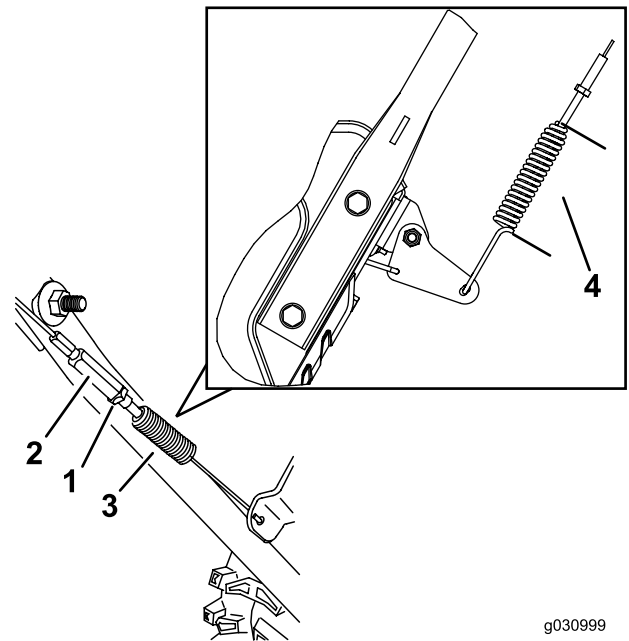

Figure 27
4. Tighten the jam nut (Figure 27), ensuring that there is slight tension on the cable.
3. Loosen or tighten the turnbuckle to adjust the spring length to 5.5 cm (2-3/16 inches) as shown in Figure 27.